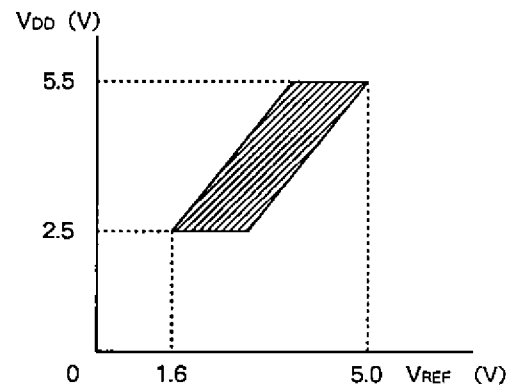

Fig. 5 Power supply voltage detection reset function chart
The graph in Fig. 5 shows the relationship between the power supply voltage VDD and reference voltage VREF of the power supply voltage detection reset function.
- Note 1)** The graph in Fig. 5 serves as guide to the function operation area obtained using average devices.